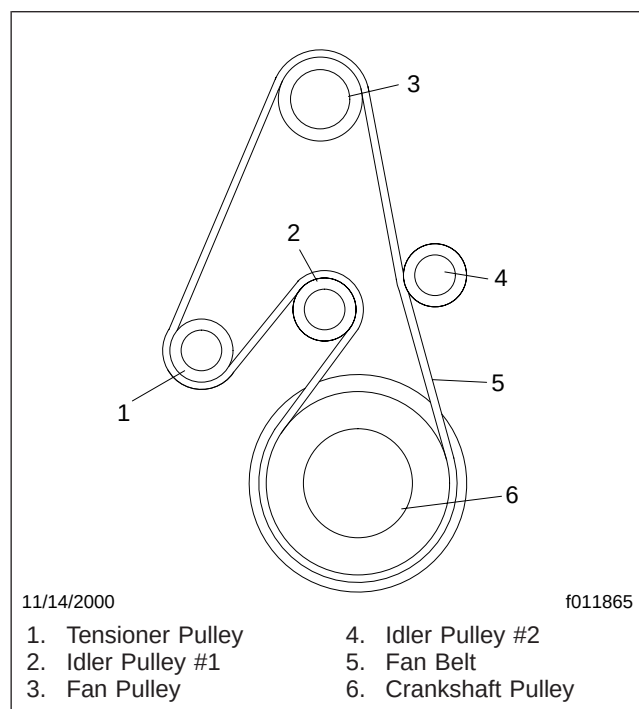

Fig. 4, Fan Belt Routing
5. Fit the new belt onto the belt pulleys. Be careful not to kink, stretch, or otherwise damage the belt. For correct routing, see Fig. 4. Do not fit the belt onto the tensioner pulley yet.